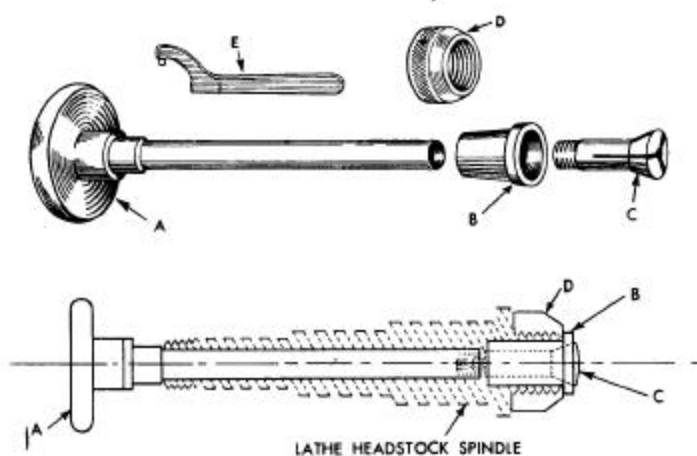

FIGURE 24—DRAW-IN COLLET ATTACHMENT
The assembly consists of a draw-in spindle (A in Fig. 24) threaded at the right end to receive the collet; a tapered closing sleeve (B); a split holding collet (C); spindle nose cap (D); and spindle nose cap wrench (E). The tapered closing sleeve fits into the headstock spindle and adapts it to the collet. The work is placed in the